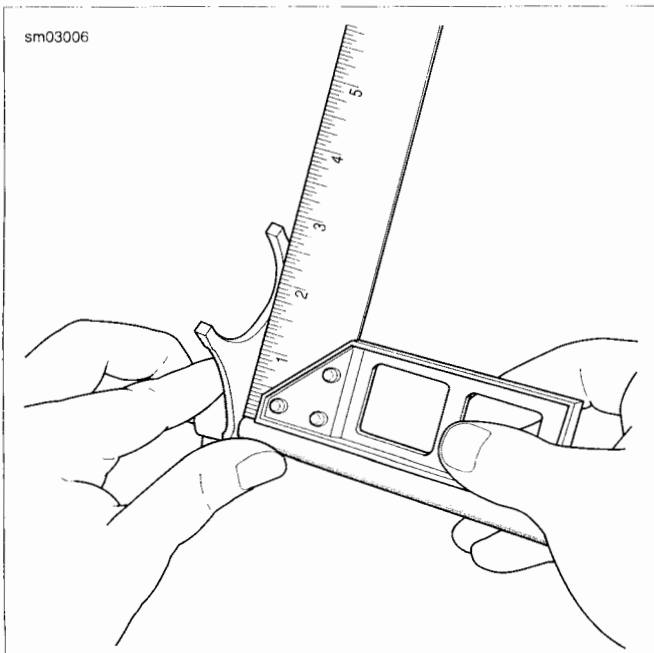

Figure 6-24. Checking Fork
7. See Figure 6-24. Using a small carpenter's square, verify the shift forks are square. If shift fork does not rest directly on the square, then it is bent and must be replaced.